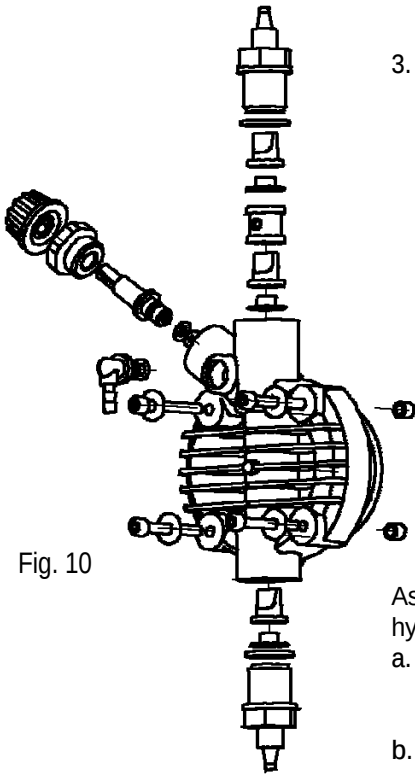

Fig. 10
2. Check pump operation, screw seals and gaskets every 6 months and for very aggressive liquids make more frequent checks and in particular monitor the concentration of the plant additive; a reduction in additive concentration could be determined by wear on the valves (in this case substitute the valves being careful to reassemble them as in Fig. 10) or by clogging of the filter which must be cleaned as follows.
To perform this operation when the equipment is not fixed to the plant, the pump can be pulsed for a few seconds (15-30) keeping it overturned and without piping connected to the fittings. If this is not possible disassemble and reassemble the pump body (Fig. 10), using the four fixing screws.
As the system is quite robust, normally there are no mechanical problems. Occasionally there might be a loss of liquid from the nipple because the tube nut has become loose, or more simply the outlet piping has broken. It is rare to detect losses due to a broken membrane or due to wear on the membrane seal gasket. In this remote case, the components must be substituted by removing the four screws on the pump body (Fig. 10), when the screws are reassembled tighten them equally to a maximum tightening torque of 180÷200 NxcM. Once the liquid loss is repaired, clean the dosing pump of any additive residues which could attack the pump body.
- a. Disassemble the suction and outlet valves, clean them and place them back to the same position (Fig. 10).